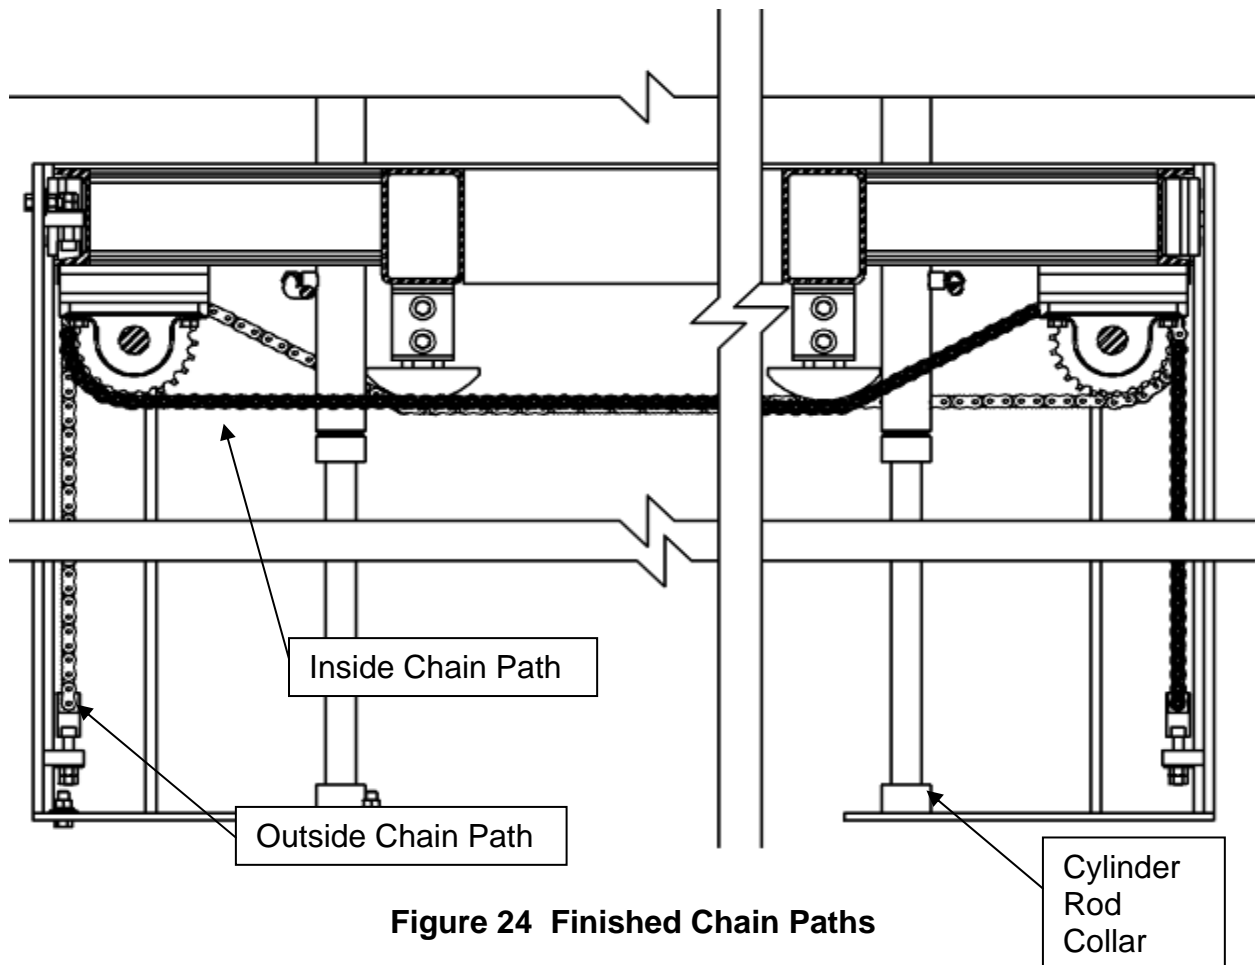

Figure 23 Connection to Upper Lug – Inner Chain
12. Basically, repeat steps 5 through 10, except that for the inner chain path - chain attaches to upper lugs located at the TOP of the Right Rear (RR) and Left Front (LF) corner guides (refer to **Figure 22**), and to lower lugs near the BOTTOM of the Right Front (RF) and Left Rear (LR) corner guide assemblies (refer to **Figure 23**). assemblies with the hardware provided